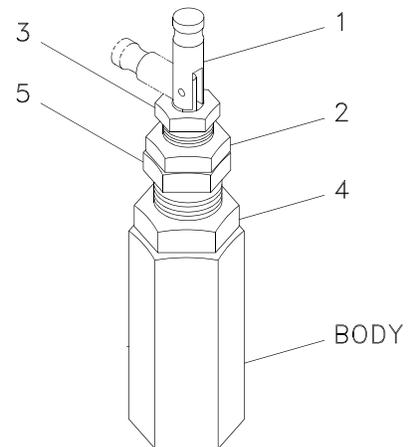

Figure 6-2. Pilot Valve (ALP-V403)
- b. Turn decompressor adjusting screw (B) in clockwise direction just until valve rocker lever begins to depress exhaust valve, then turn adjusting screw one full turn beyond that. Adjusting screw requires a torque load of 6 in-lb to turn.
6.3.9 ADJUSTING COMPRESSOR PILOT VALVE (ALP-V403). (Refer to Figure 6-2)